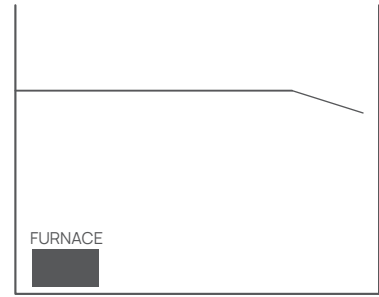
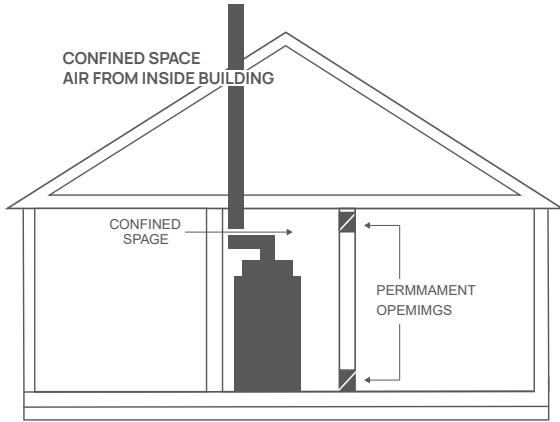
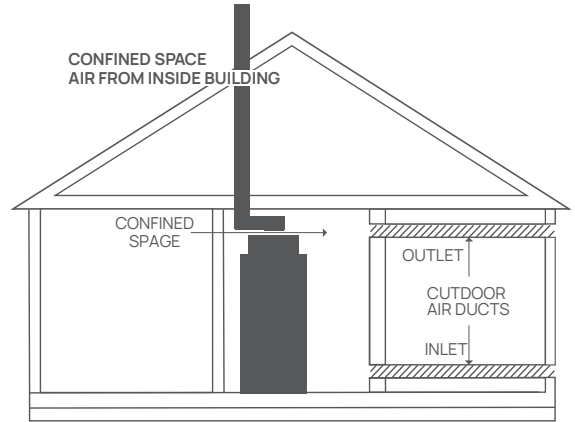

Fig. 18 CONFINED SPACE
Fig. 19
Fig. 20
Confined spaces are installations with less than 50 cu. ft. of space per 1000 BTU/hr input from all equipment installed, as in Figure 18. Air for combustion and ventilation requirements can be supplied from inside the building as in Figure 19 or from the outdoors, as in Figure 20.
2. All air from outdoors as in Figure 20: The confined space shall be provided with two permanent openings, one commencing within 12 inches of the top and one commencing within 12 inches of the bottom of the enclosure. The openings shall communicate directly, or by ducts, with the outdoors or spaces (crawl or attic) that freely communicate with the outdoors. Refer to Table 8, for minimum open areas requirements.